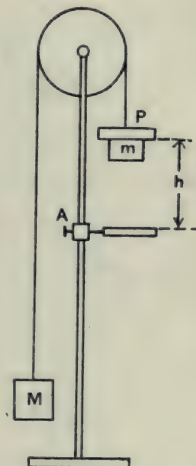

Fig. 93.
**Example (10).** *Loads  $M$ ,  $m$ , and  $P$  are suspended by a string which passes over a light frictionless pulley as shewn in fig. 93. A ring fixed at A is large enough for  $m$  to pass through but stops  $P$ . The string connected to  $m$  passes through a hole in  $P$ .  $M$  is greater than  $m$  and less than  $P + m$ . Shew that, if the masses start from rest in the position shewn in the figure, after the mass  $m$  has passed twice through the ring the system will, for the instant, come to rest again with  $P$  at a height  $\left( \frac{M + m}{P + m + M} \right)^2$  above the ring.*